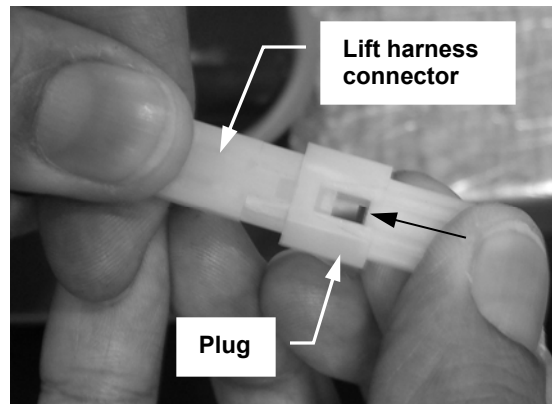

FIGURE 4
3. Insert supplied plug into the lift harness connector. Refer to Figure 4.